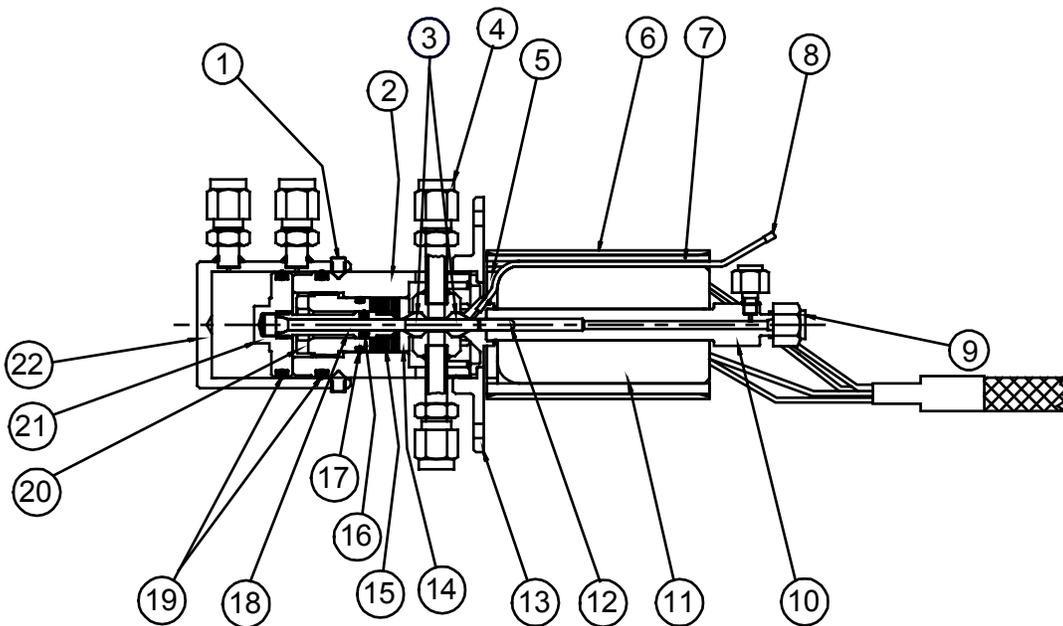

Figure 1. LIQUID SAMPLE VALVE
Refer to Figure 1 for typical sample valve component location.
3. Remove the two cone point set screws (1 in Figure 1) from the cylinder (22).
4. Slide the cylinder (22) off of piston (21) and body (2).
5. Using an Allen wrench, rotate the sleeve (20) counterclockwise until it is loose.
6. Unscrew the body (2) from the flange (13) and vaporizer chamber (10).
7. Remove the vaporizer chamber (10) from the flange (13).
8. Slide the seal (3) from the stem (12) using sample chamber (4).
9. Withdraw the piston (21) and the rod assembly (18) from the sleeve (20).
10. This will free the seal (3) from the stem (12).
13. Remove the rear valve seat (14) from the body (2).